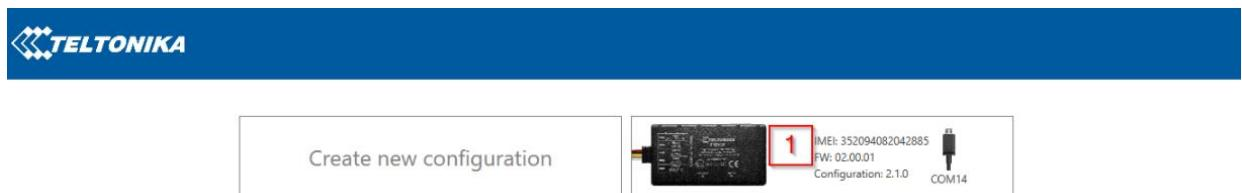

Figure 33 FMB920 configurator connected devices window
2. Launch **FMB Configurator** and connect to device as shown in **Figure 33** below.